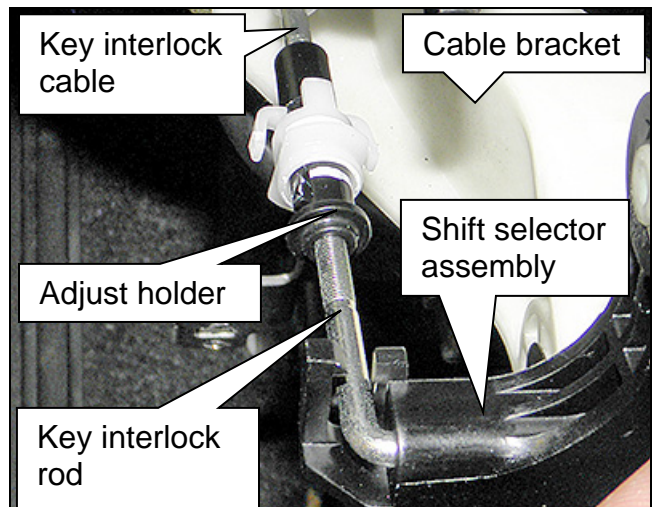

Figure 27
20. Adjust key interlock cable (Figure 27):